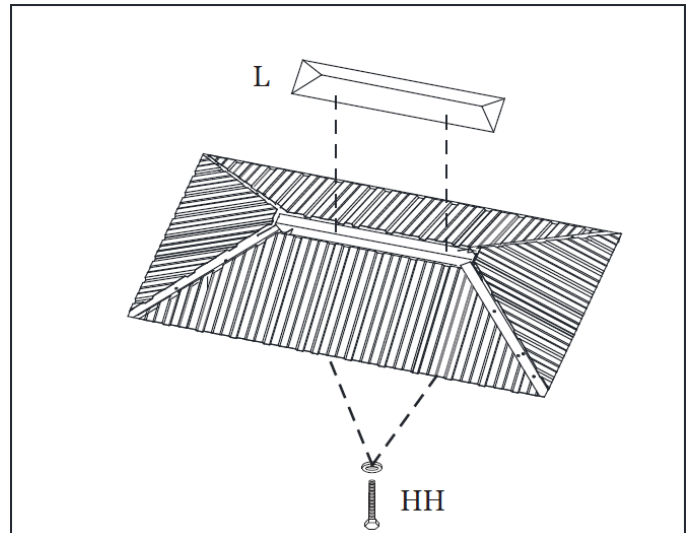
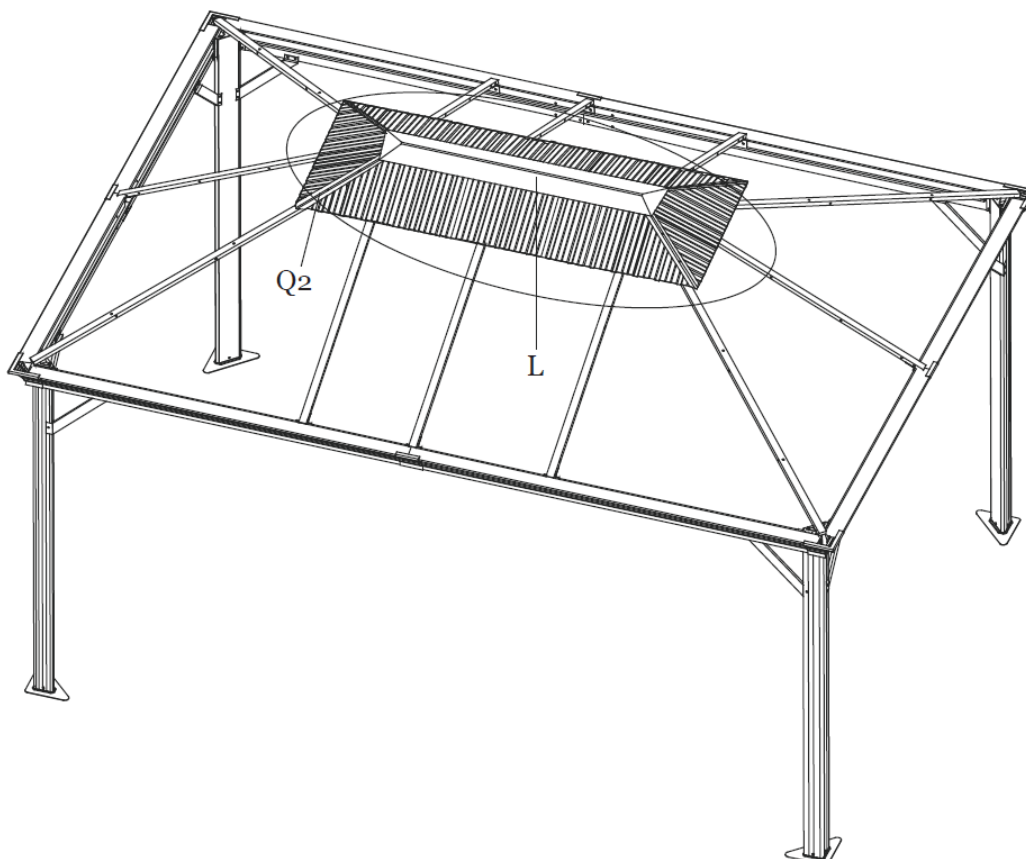

Figure 11-3
Figure 11-4
Step 11C: Attach the Roof Vent Top Trim (L) to the Roof Vent Center Support (K2) using Bolts (HH). **Tighten all Bolts.** See Figure 11-3 and Figure 11-4.